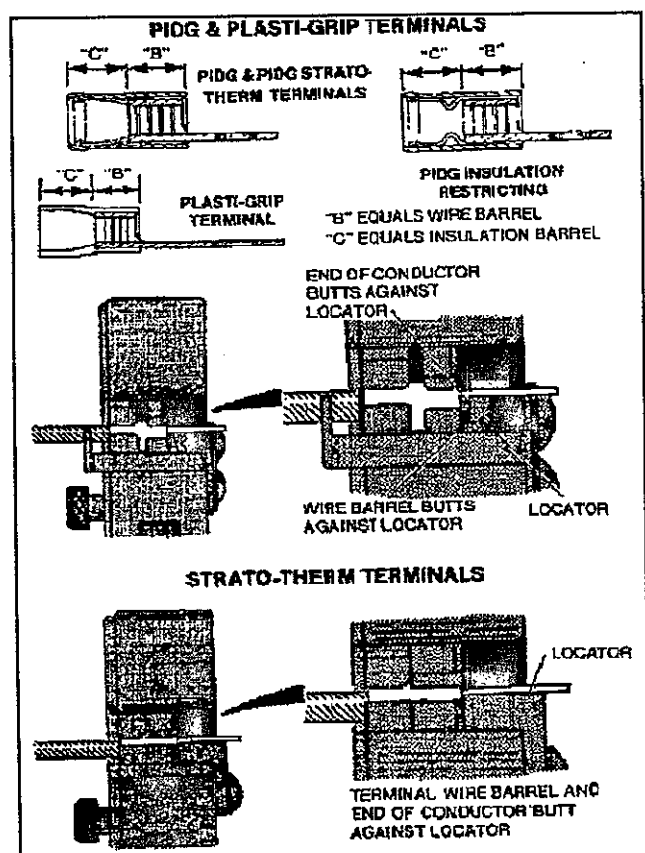

Fig 2
### 2.2.1 Terminals (Refer to Figure 2)
- Position terminal or splice in crimping dies as shown in Figure 2 or 3 to hold terminal or splice in place.
- Insert UNSTRIPPED wire into ONLY the insulation barrel (see Figure 2 or 3) of the terminal or splice.